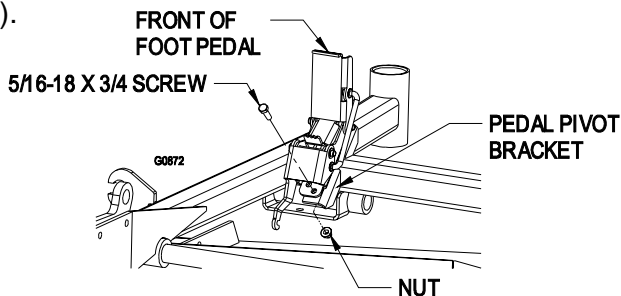

FIGURE 4
3.2.4 The lower screw installs from the top down as shown in Figure 4. Fasten with whizlock nut (item 7).